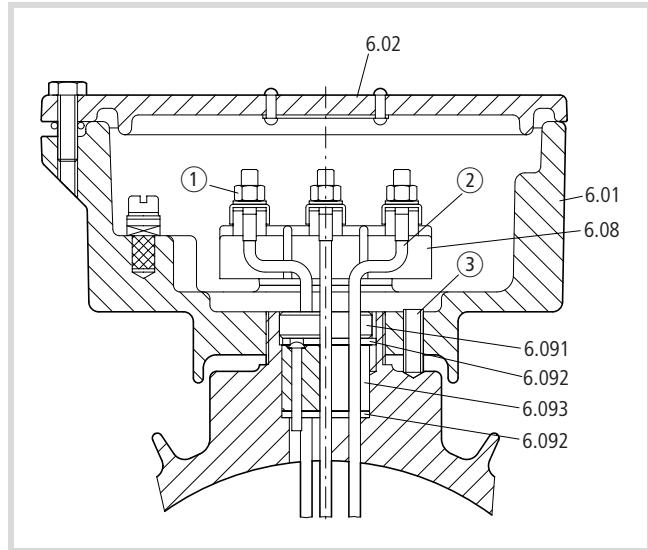
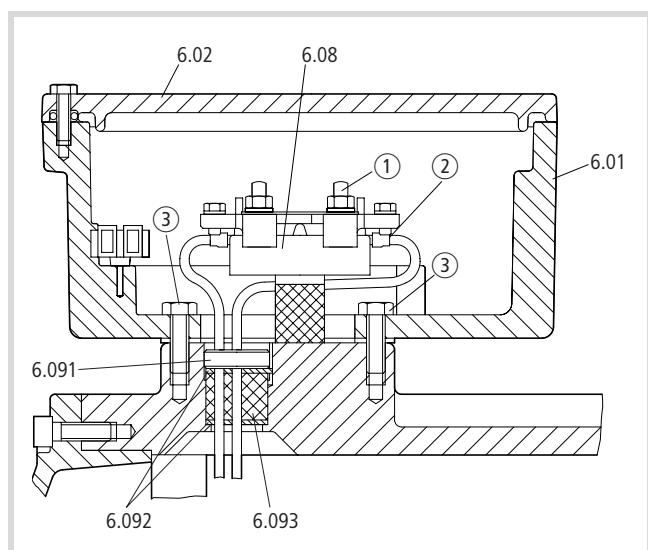

Figure 12: Undoing the terminals from the terminal plate (6.08)
Figure 13: Undoing the terminals from the terminal plate (6.08)
- Undo the terminals (1) (→ Fig. 12) from the terminal plate (6.08).
- Unscrew the set screw (3) until the terminal box can be rotated easily.
- Undo the terminals (1) (→ Fig. 13) from the terminal plate (6.08).
- Undo the terminals ① (→ Fig. 12, Page 11 and Fig. 13, Page 11) on the terminal plate (6.08).
- Sever the winding cables directly on the cable lug ②.